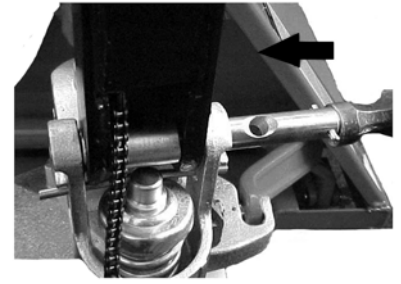

Fig. 6: Axle assembling
a) Insert the tiller arm(1) into the pump piston, then use a hammer to insert the axle with hole into the hydraulic pump and tiller arm from the right to the left (Fig. 6).